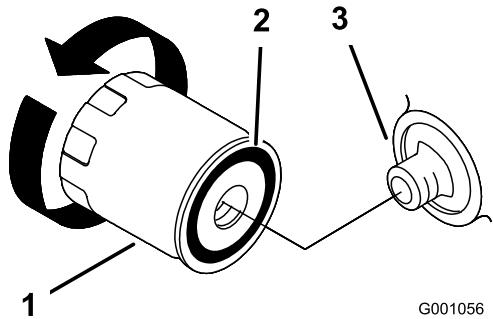

Figure 49
7. Remove the old filter (Figure 48 and Figure 49) and wipe the surface of the filter adapter gasket.